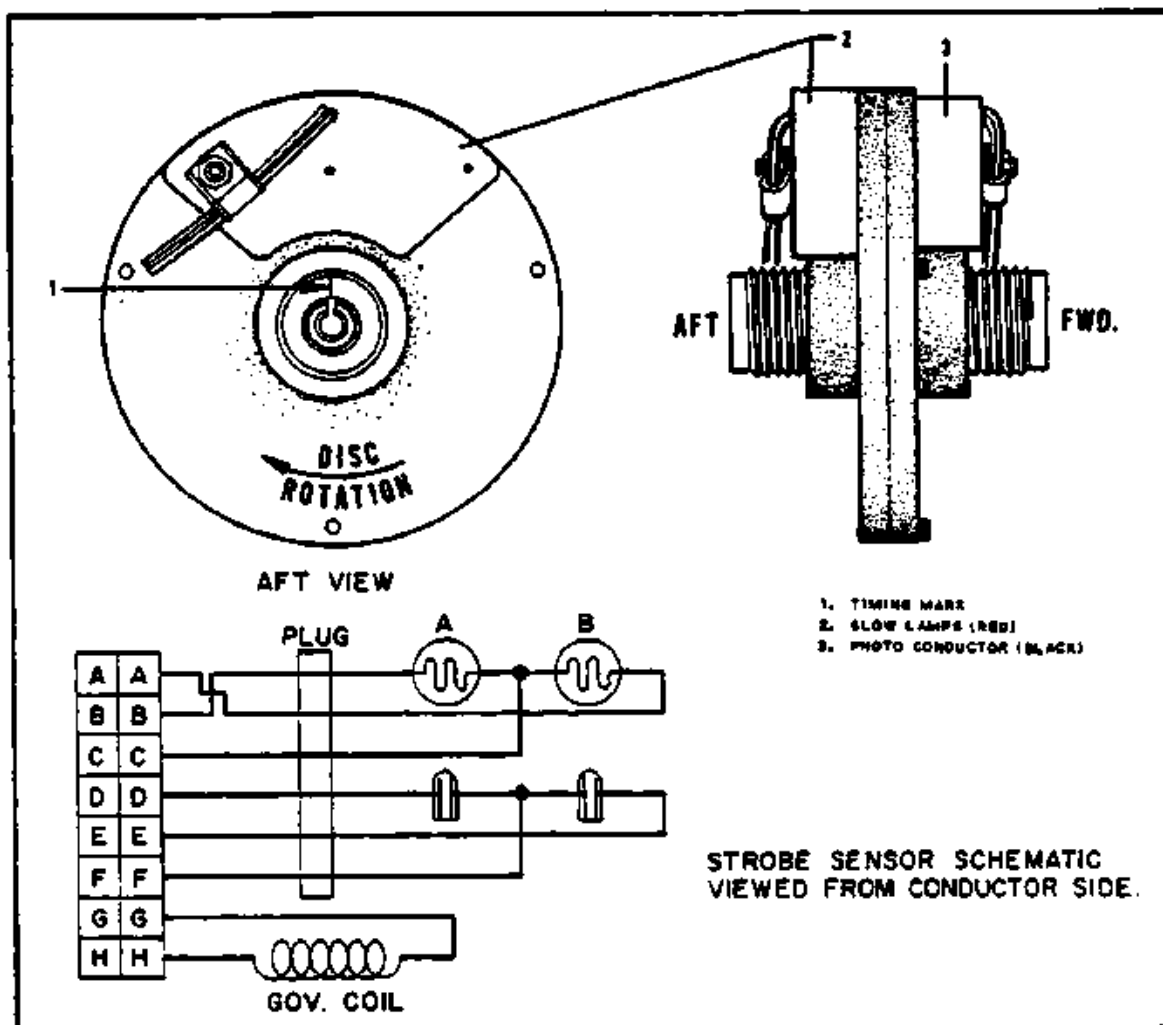

Figure 14-5. Strobe Sensor
**14-26. INSTALLATION AND ADJUSTMENT OF STROBE SENSOR.** (Refer to Figure 14-5.)